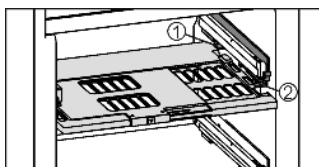

Fig. 22
- ▶ To insert the humidity control plate: Insert the cover mouldings of the plate into the rear holder *Fig. 22 (1)* from underneath and engage them in the holder *Fig. 22 (2)* at the front.